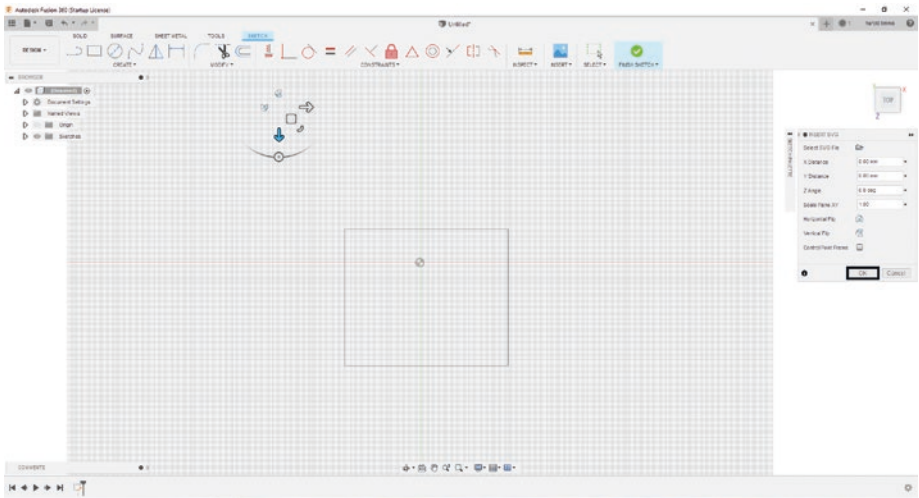

Figure 3-37. SVG will be added to Fusion 360
6. Then click the “OK” button. See Figure 3-37.